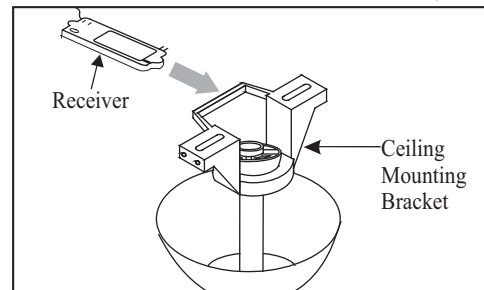

Figure 9
1. Insert the receiver into the mounting bracket with the flat side of the receiver facing the ceiling (Figure 9).